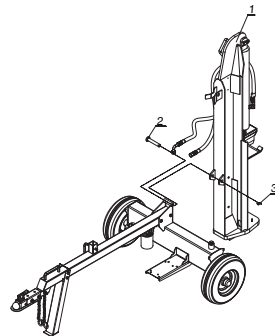

Figure 5
1. Attach the beam assembly (#1) to the hydraulic tank and secure using the hinge pin (#2 and R-Pin $\text{\O}3$ #3). (See fig. 5)